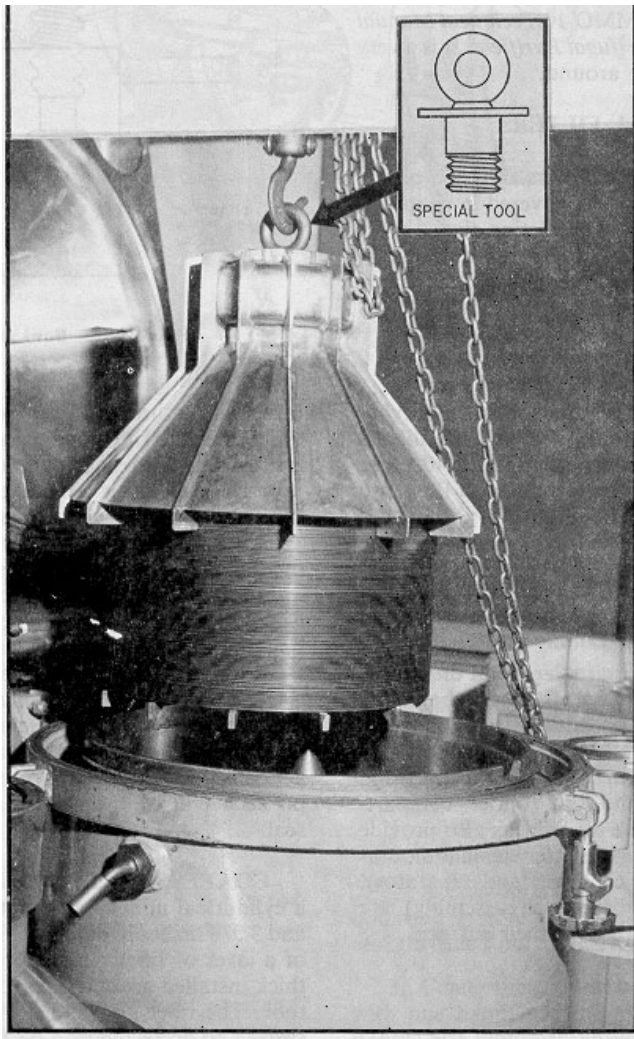

Figure 2-60.—Removing disk stack.
7. Remove the tubular shaft, top disk, paring disc, and intermediate disks, with the chain hoist, using the special tool provided. (See figure 2-60.)